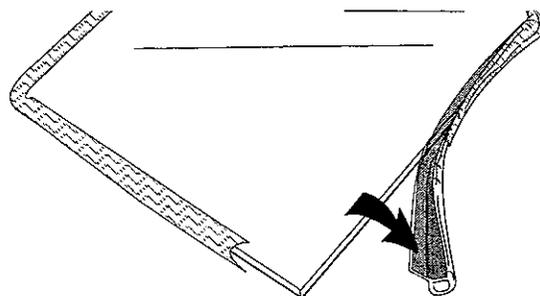

Fig. 34. Wrap the self-adhesive gasket material around the outside edge of the glass
Use only Vermont Castings glass gasket no. 120-3702. Note that the gasket material has two distinct halves; the flat self-adhesive portion goes around the outer edge of the glass panel so that the thick, round half overlays the inside edge. Do not stretch the gasket. See Fig. 34
2. Remove about 6" of the protective paper strip from the gasket, and, starting on a long side of the glass, apply the flat adhesive face of the gasket around the outside-facing edge of the panel. Continue around the panel, applying about 6' of gasket at a time, and being careful to not stretch the material. See Fig. 34